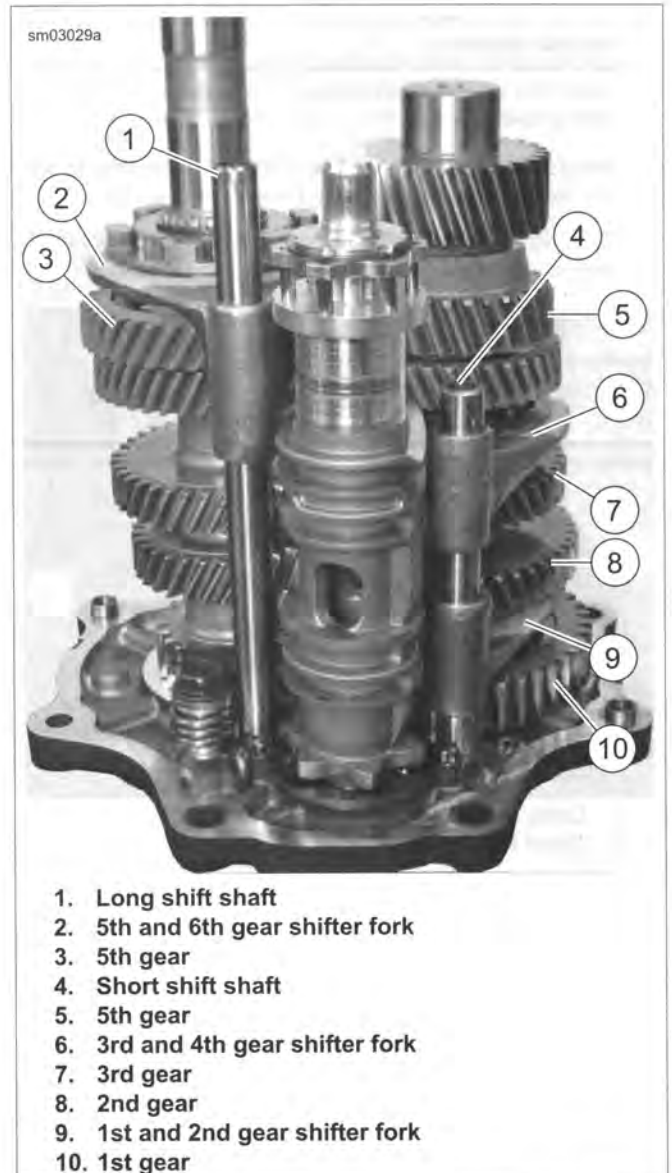

Figure 6-33. Transmission Gears and Shifter Forks
9. See Figure 6-33. Insert shifter fork (2) into the slot of the dog ring in between mainshaft 5th and 6th gear.
- a. Insert shifter fork (6) into the slot of the dog ring in between countershaft 3rd and 4th gear.
- b. Insert shifter fork (9) into the slot of the dog ring in between countershaft 1st and 2nd gear.